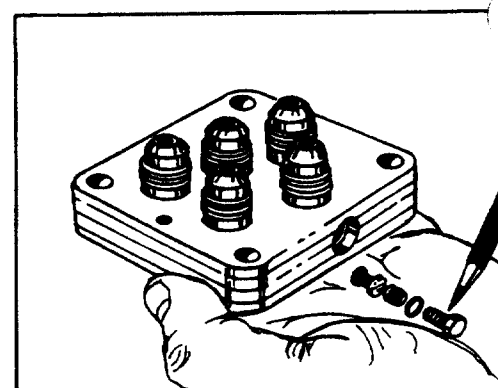
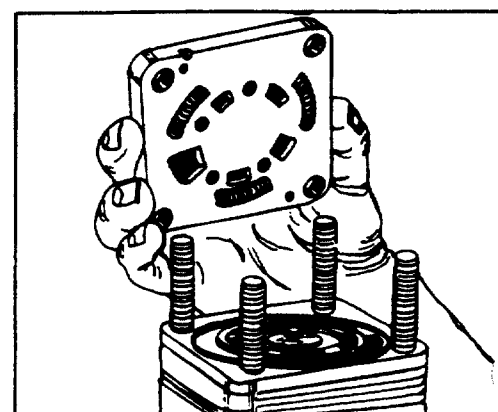

FIGURE 8.
FIGURE 9.
- 5A. If included, remove from the port cover (2) the loosened hex plug (6A) and O-ring (7A). Discard O-ring. Remove relief valve cartridge and spring assembly (5A) and (5B). Replace valve and spring assembly (5A) if spring is distorted or bent. A bent or lost spring (5B) can be serviced separately. See figure 8.
6. Inspect the port cover (2) for port fitting sealing surface scratches and thread damage. Replace port cover, if these conditions are evident.
7. Carefully lift the port manifold (8) (3 plates bonded together) from the unit. See figure 9.